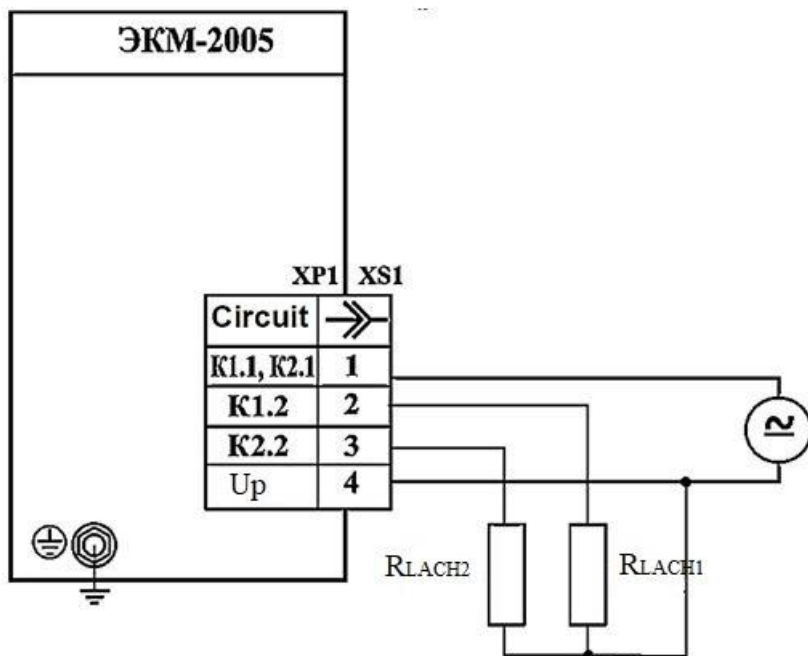

Figure 3.1
3.1.3.1 Connect ЭКМ to the power source and a measuring instrument in accordance with Figures 3.1 - 3.15.
Designations for Figures 3.1 to 3.6: